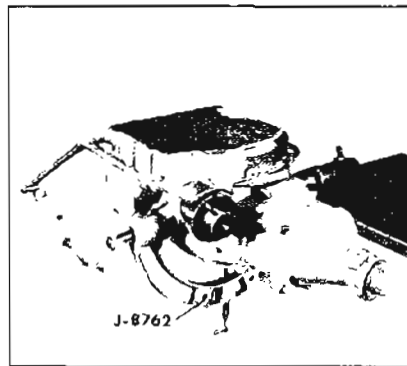

Figure 5-100
b. Place transmission on a CLEAN work bench and use CLEAN tools during disassembly. Provide CLEAN storage space for parts and units removed from transmission. An excellent working arrangement is provided by assembling the transmission to Holding Fixture J-8762. See Figure 5-100.
1. If transmission has been removed from car, assemble transmission in Fixture J-8763. See Figure 5-100.